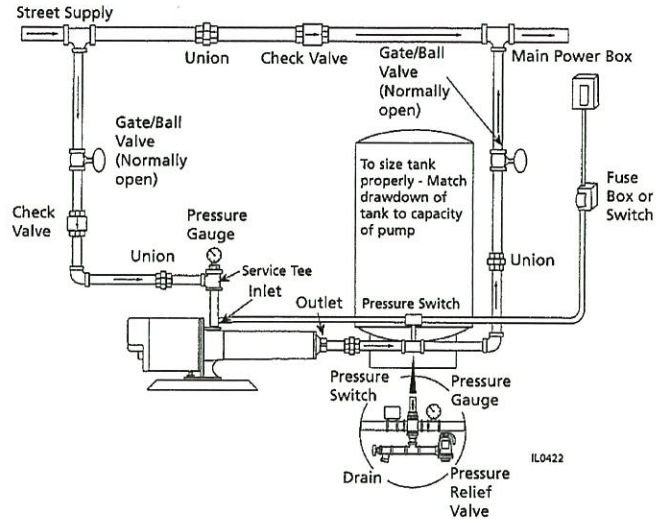

Figure 6
1. Refer to Figures 6, 7, and 8 for typical installations.
1. On pressure boost systems, locate the pump so that there will always be a positive supply of water to the pump (See Figures 6, 7 and 8).
3. Install a check valve as shown in Figure 6. Be sure check valve flow arrows point in the direction of water flow.
5. A pressure gauge installed in the inlet pipe close to the inlet port, (See Figure 6) will show if enough water is being supplied to the pump. See Operation Section - Priming, Pressure Boost Installations.
Priming is automatic when pump is connected to a pressure source such as a hydrant or city main (See Figures 6, 7 & 8).
3. If you installed a pressure gauge at the pump inlet, a reading of 2 psi minimum should show whenever the pump is in operation (See Figures 6, 7 & 8).